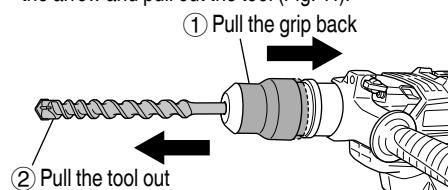

Fig. 11
(3) Pull the tool to make sure it is locked completely.
(4) To remove the tool, fully pull the grip in the direction of the arrow and pull out the tool (Fig. 11).